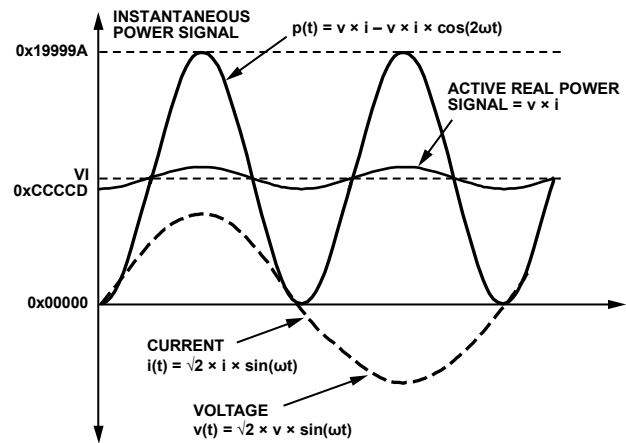

Figure 42. Active Power Calculation
Note that the active power is equal to the dc component of the instantaneous power signal $p(t)$ in Equation 9, that is, VI . This is the relationship used to calculate active power in the ADE5166/ADE5169/ADE5566/ADE5569. The instantaneous power signal $p(t)$ is generated by multiplying the current and voltage signals. The dc component of the instantaneous power signal is then extracted by LPF2 (low-pass filter) to obtain the active power information. This process is illustrated in Figure 42.
The ADE5166/ADE5169/ADE5566/ADE5569 also incorporate an active power offset register (WATTOS[15:0]). It is a signed, twos complement, 16-bit register that can be used to remove offsets in the active power calculation (see Figure 42). An offset can exist in the power calculation due to crosstalk between channels on the PCB or in the IC itself. The offset calibration allows the contents of the active power register to be maintained at 0 when no power is being consumed.
As mentioned in the Active Energy Calculation section, the discrete time sample period (T) for the accumulation register is 1.22 μ s (5/MLCK). With full-scale sinusoidal signals on the analog inputs and the WGAIN register set to 0x000, the average word value from each LPF2 is 0xCCCCD (see Figure 42). The maximum positive value that can be stored in the internal 49-bit register is 2^{48} (or 0xFFFF,FFF,FFF) before it overflows. The integration time under these conditions when WDIV = 0 is calculated in the following equation: